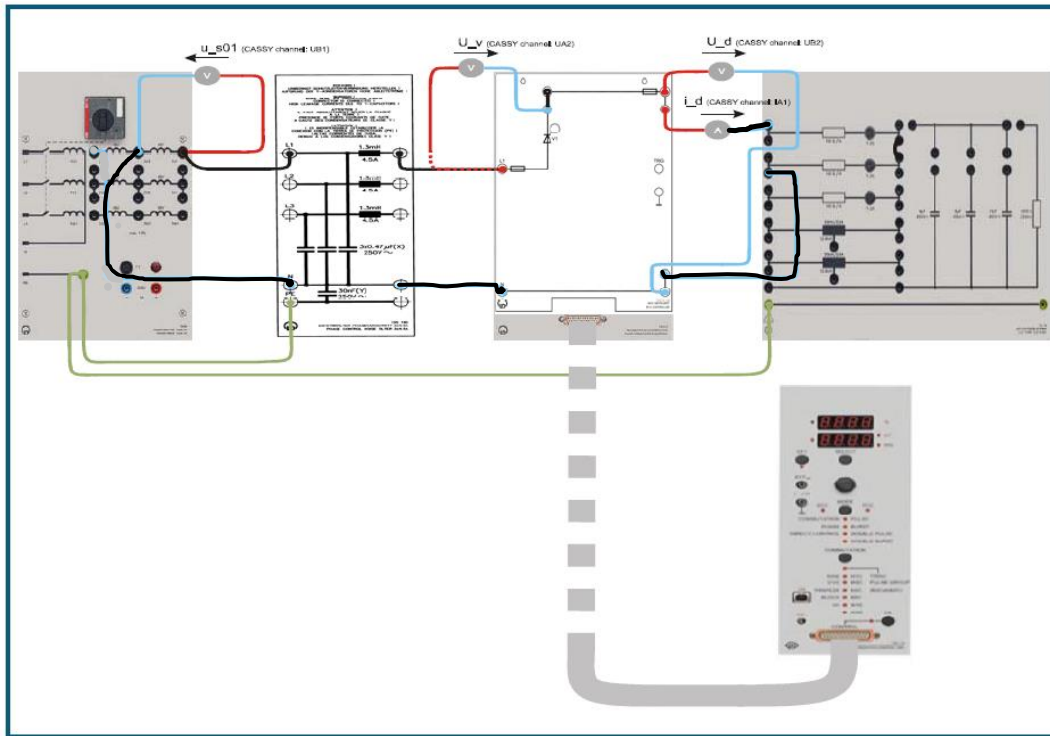

Figure 3.1 Configuration of a Single-Phase Half-Wave Converter supplying a purely resistive load of 200Ω
- Connect the components as shown in Figure 3.1. The load is purely resistive of 200Ω (2 resistors in series, of 100Ω each).